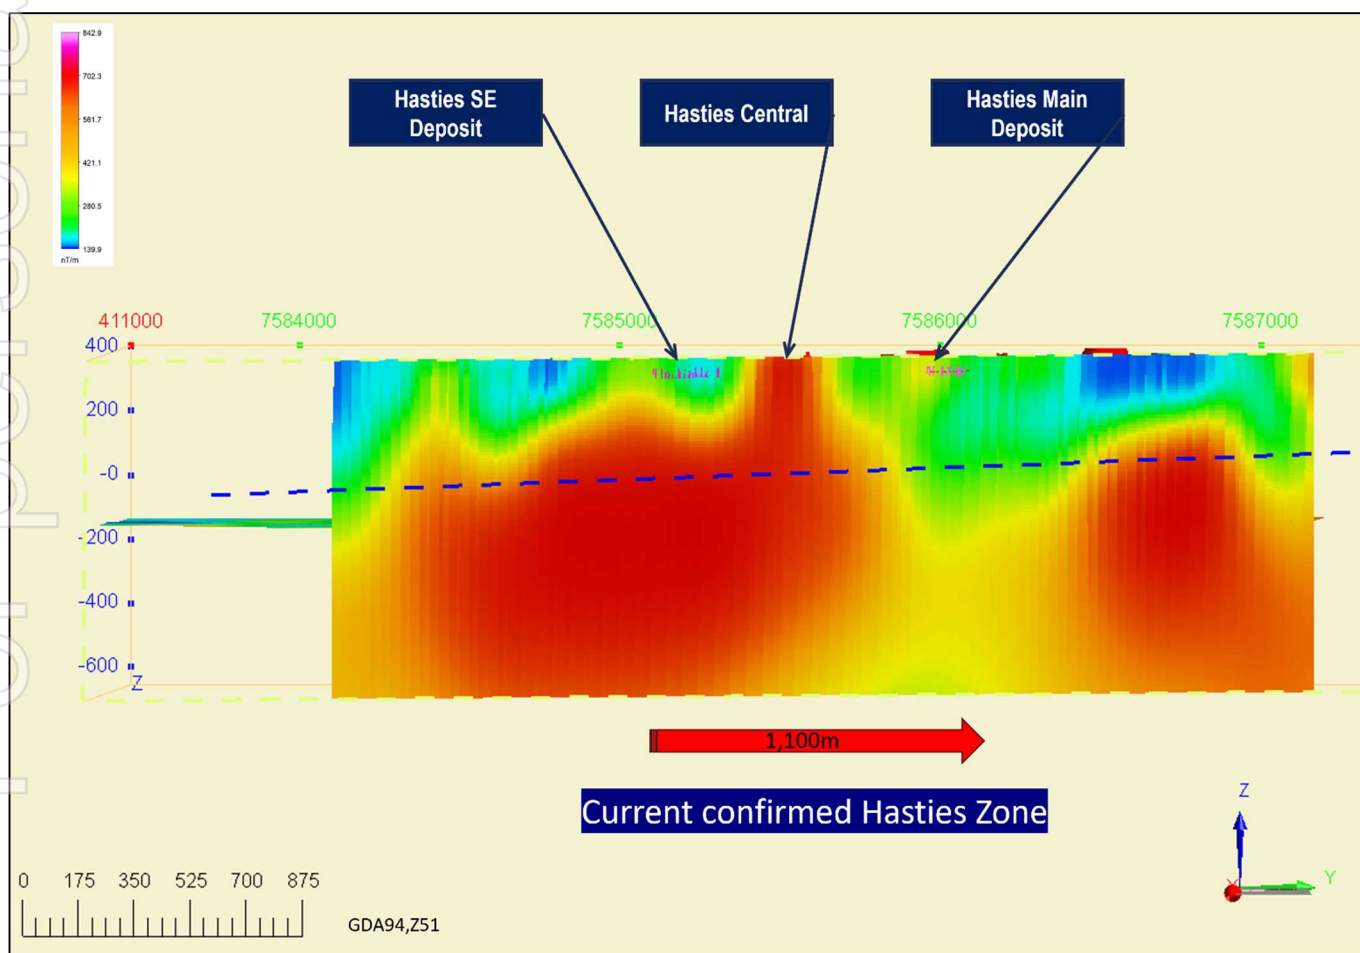

Figure 3 –Hasties Prospect – Mobile MT – Long X-Section – A-A Looking South-West
- **Surface Breach (Hasties Central):** A conductive unit is interpreted to have breached the surface, coinciding with the Hasties Central prospect, which hosts recently released historic high-grade gold-copper rock-chip samples (Figure 3).